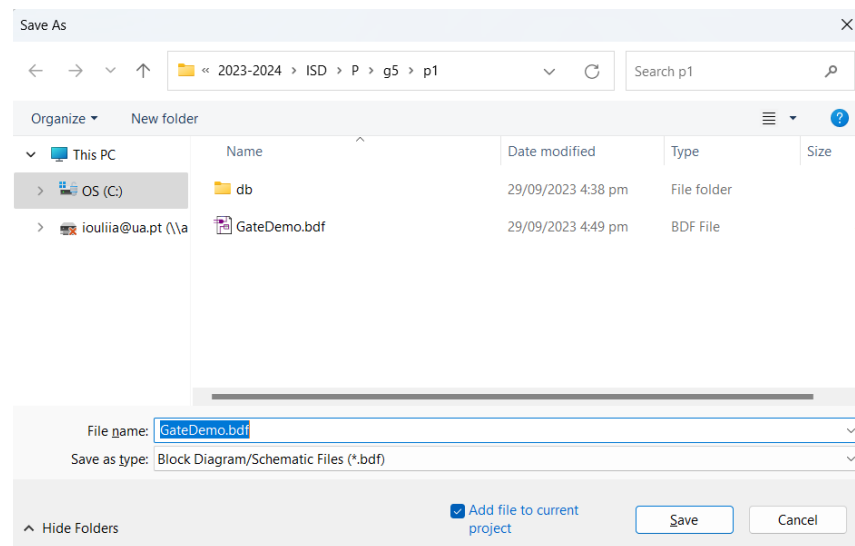

Figure 14 - Dialog for saving the GateDemo.bdf file.
7. Save the file, whose name should be “GateDemo.bdf” (Figure 14).